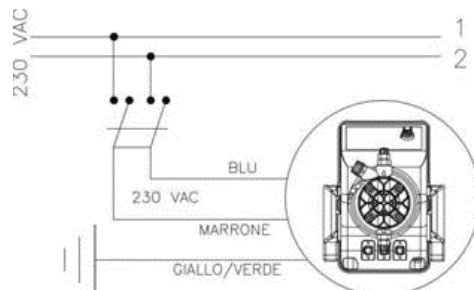

Fig. 4
1. Disconnect the pins from the mains or by means of a two poles switch with 3 mm minimum distance between the contacts. (Fig. 4).
**b.** - Carefully observe the regulations in force in the various countries as regards electrical installations (Fig.4). **When the supply cable is devoid of a plug, the equipment should be connected to the supply mains by means of a single-pole circuit breaker having a minimum distance of 3 mm between the contacts. Before accessing any of the electrical parts, make sure that all the supply circuits are open.**